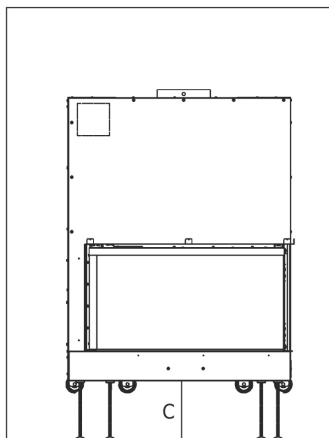

FIGURE 4 - SAFETY MEASURES
In the event of a floor made of flammable material, the lower part of the closed fireplace (C) must be at least 5 cm away from the floor. Fig.4